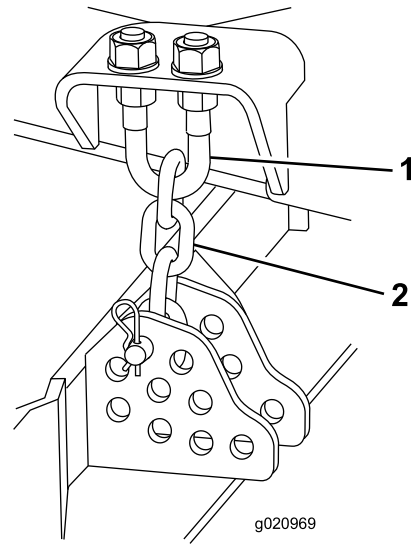

Figure 121
4. Remove the hairpin cotter and clevis pin securing the height-of-cut chains to the rear of the cutting unit (Figure 121).